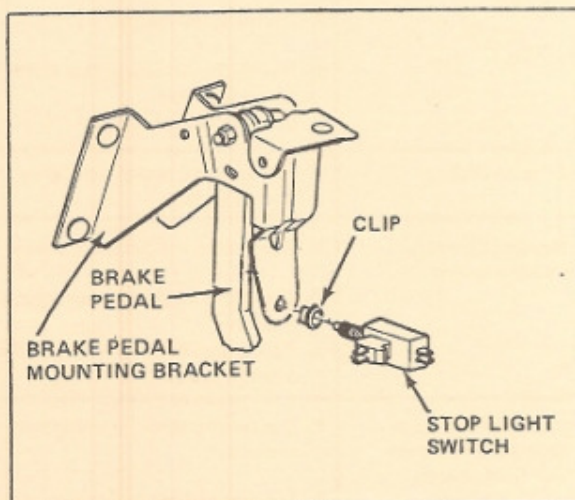

Figure 149 — Stoplight Switch on Brake Pedal
**STOPLIGHT SWITCH ADJUSTMENT** — The design of the stoplight switch and valve mounting (see figure 149) provides for automatic adjustment when the brake pedal is manually returned to its mechanical stop, as follows: